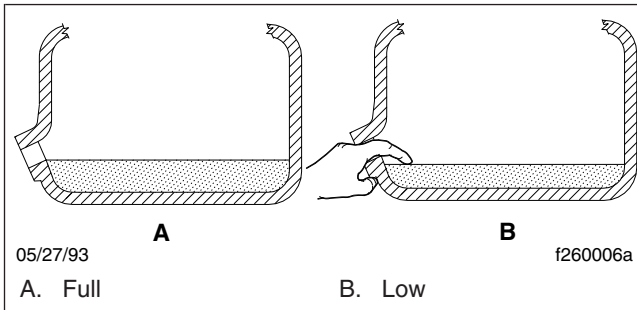

Fig. 1, Checking Transmission Fluid Level
6. Add fluid until it is level with the lower edge of the fill opening. See **Fig. 1**. If the transmission has two fill openings, add fluid to the level of both openings. See **Table 1** for approved transmission lubricants. See **Table 2** for Meritor transmission lubricant capacities and **Table 3** for Eaton Fuller transmission lubricant capacities.